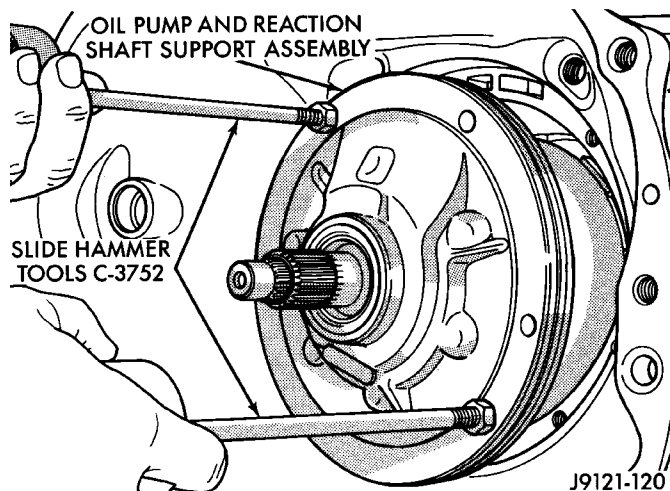

Fig. 94 Removing Oil Pump And Reaction Shaft Support Assembly
(13) Loosen front band adjusting screw locknut 4-5 turns. Then tighten band adjusting screw until band is tight around front clutch retainer. This prevents front/rear clutches from coming out with pump and possibly damaging clutch or pump components.
(14) Remove oil pump bolts.
(15) Thread bolts of Slide Hammer Tools C-3752 into threaded holes in pump body flange (Fig. 94).
(16) Bump slide hammer weights outward to remove pump and reaction shaft support assembly from case (Fig. 94).